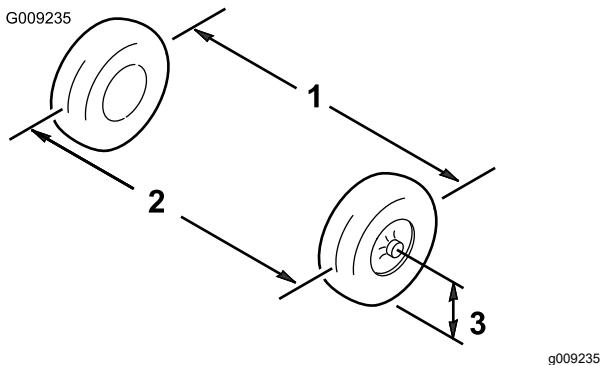

Figure 76
5. Measure the distance between both of the front tires at the axle height at both the front and rear of the front tires (Figure 76).